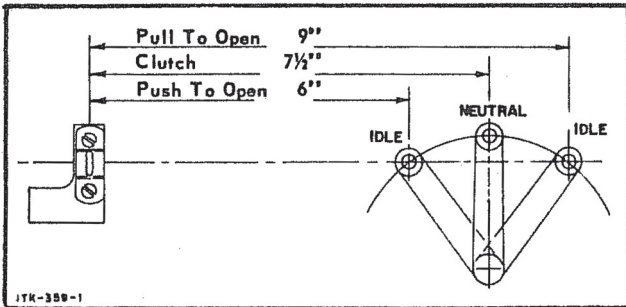

FIGURE 1
2. Refer to Figure 1 to determine the correct distance between the center of the cable clamps and the throttle or clutch lever. Note that the distance is measured with the clutch lever in neutral and the throttle lever in idle position.